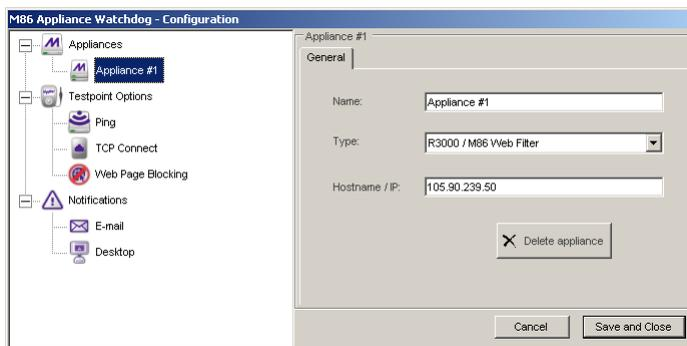

Fig. 1:3-2 Configuration window, add a new appliance
1. In the Configuration window, click the **Add a new appliance** button in the Appliances frame (see Fig. 1:3-1) to display the Appliance #1 frame in the right panel, with its default General tab: